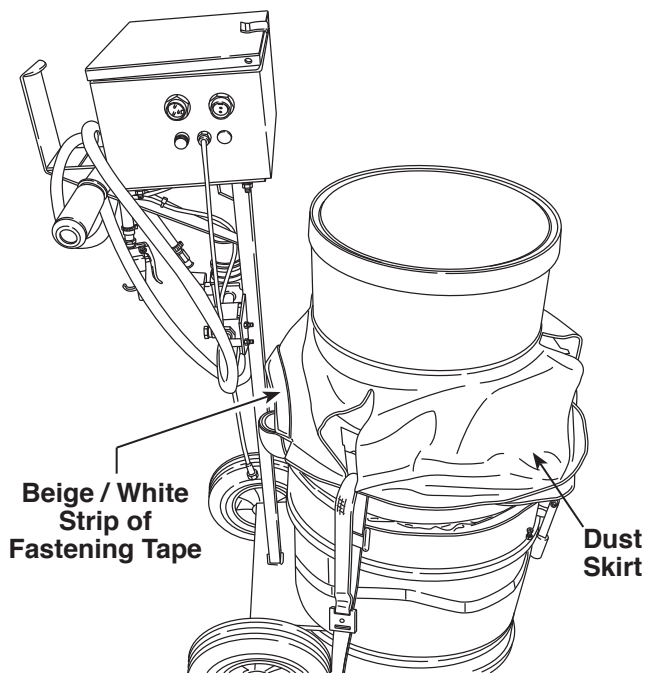

Figure 5
4. Place the dust skirt over the DPF with the fastening tape facing up and the beige / white strip on the side near the control box. See Figure 5.